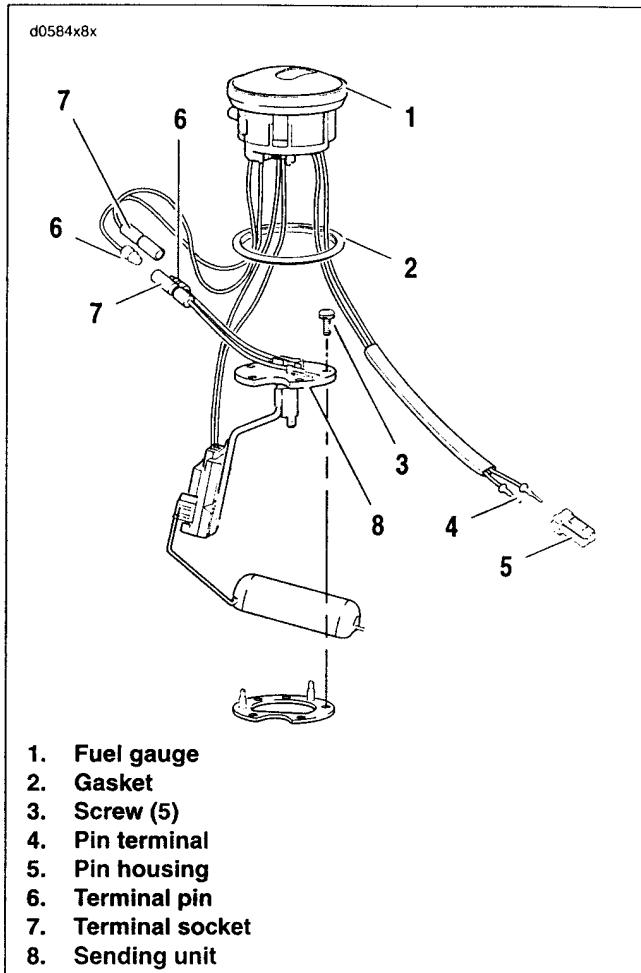

Figure 8-47. Fuel Gauge: FXDL and FXDWG
- See Figure 8-47. Pull up on gauge (1). Detach pin terminals (4) from pin housing (5).
- Remove screws (3) on sending unit plate ONLY.
- See Figure 8-47. Use new screws and install new sending unit making sure to use new gasket for proper sealing.
- Install sending unit plate screws (3). Tighten screws to 18-22 in-lbs (2.0-2.5 Nm). Tighten wire clamp at bottom of fuel tank.
- Connect terminals (6, 7) from gauge to sending unit (8).
- Connect pin terminals (4) to pin housing (5).